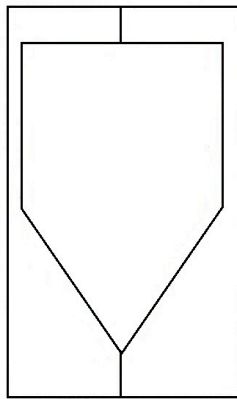

FIG. 5
**Step 4:** Now you are ready to start padding. Place the shield face down on the camping mat. You will probably need two pieces for the width. Trace the shield and cut over the foam. Repeat (Fig. 5). If you have to have a seam cut the second layer so that the seams cross. Cover any seams with duct tape. Glue and attach foam to shield face.